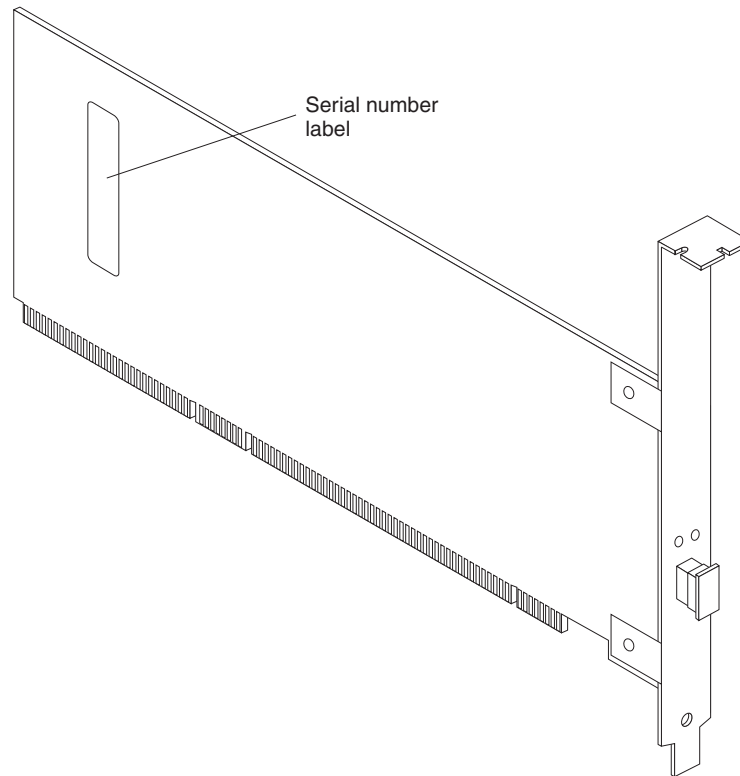

Figure 2. DS4000 FC2-133 Adapter serial number label
- Write down the serial number of the FC2-133 Adapter. Each adapter has a unique serial number. If the nonvolatile random access memory (NVRAM) (also referred to as NOVRAM) is damaged, the system prompts you for the FC2-133 Adapter serial number. Figure 2 on page 3 shows the serial number label location.